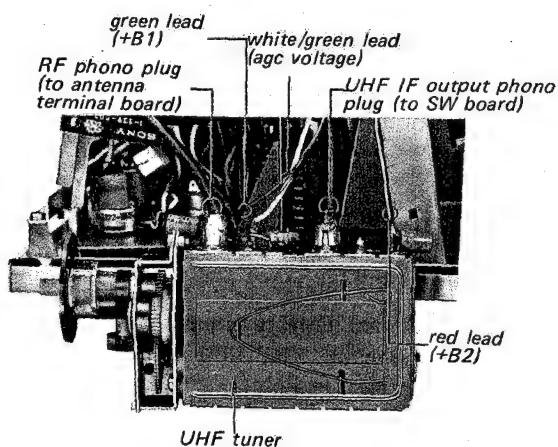

Fig. 2-12.
6. Pull off the phono plug as shown in Fig. 2-12.